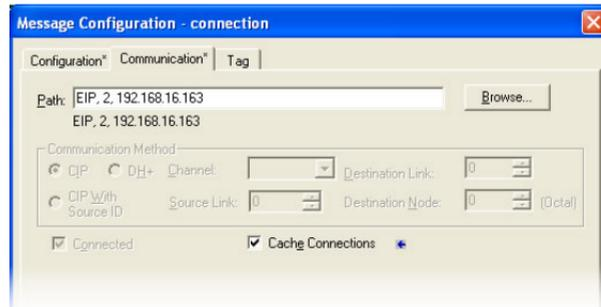

Figure 44: Setting the Communication Path
- d) “Communication” tab settings (refer to Figure 44):